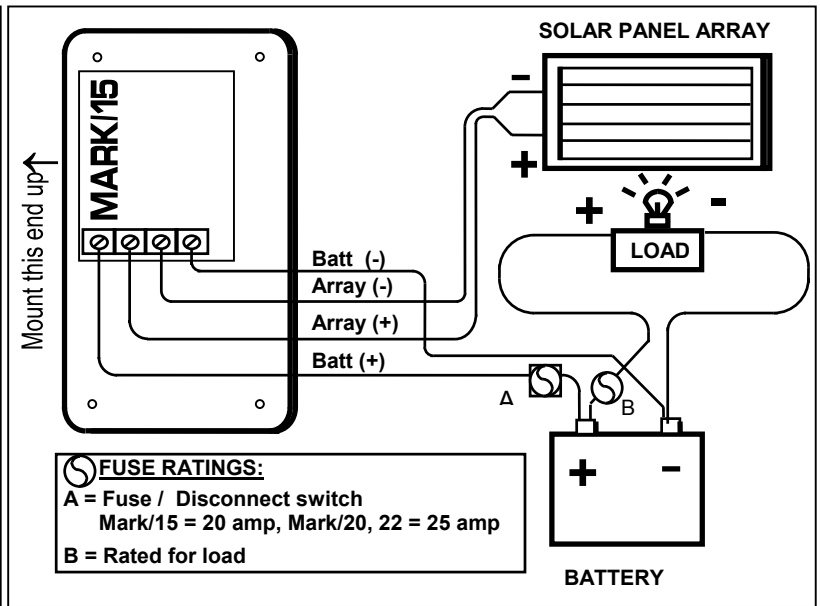

FIGURE 2 MARK/(15,20,22) - BACK VIEW
- 3. LOCATE ADJUSTMENT TRIMPOT** - The adjustment trimpot is located on the backside of the controller on the circuit board. The adjustment pot appears as a small, square, component with a slotted circle in the middle. (*Refer to FIGURE 2 - BACK VIEW (Page 4)*)